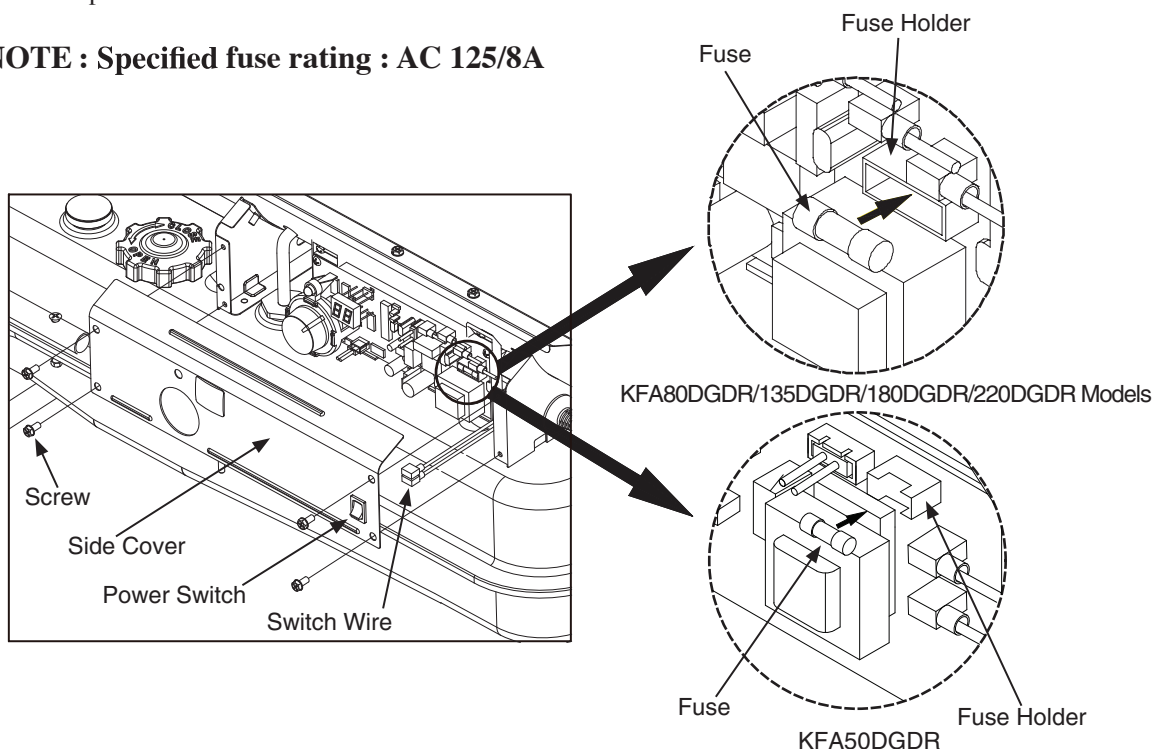

**Figure 21. Replacing Fuse**
4. Remove fuse from fuse holder.(See Figure 21.)